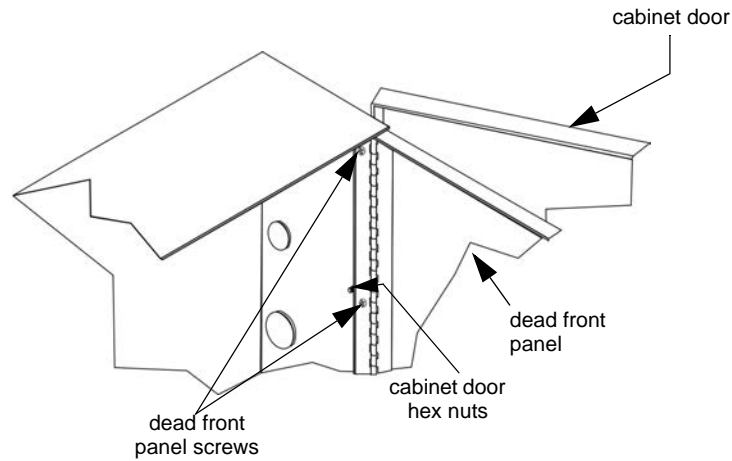

Figure 3.4 Cabinet Door and Dead Front Panel Removal
1. Using a Phillips head screwdriver, remove the six screws that hold the dead front panel in place. See Figure 3.4.